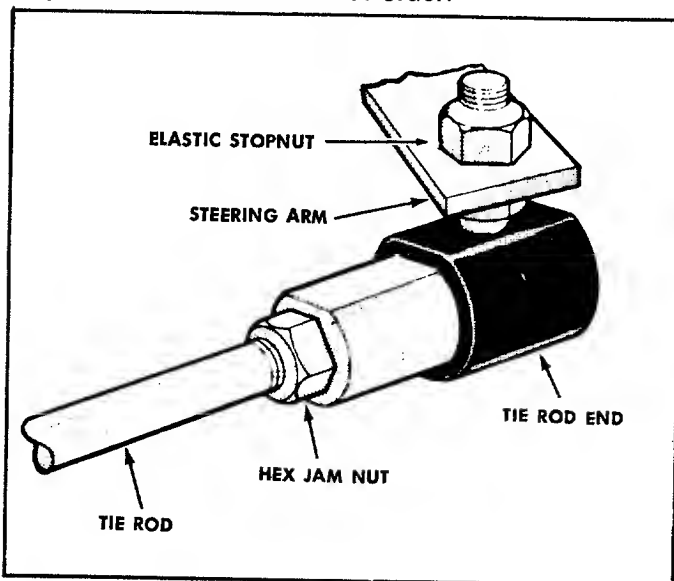

FIGURE 23. TIE ROD ADJUSTMENT
- Step 1. Loosen the hex jam nut on one side. See figure 23.